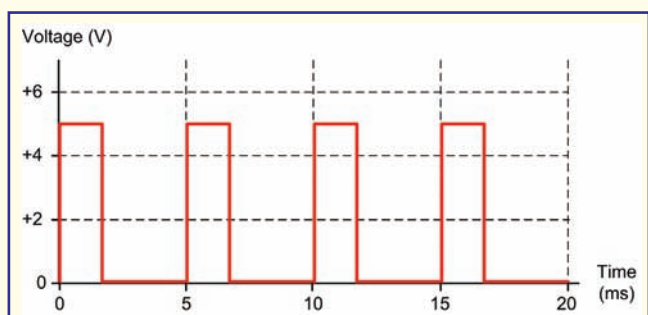

Fig.1.13. See Question 1.12
1.12. Fig1.13 shows a waveform diagram.